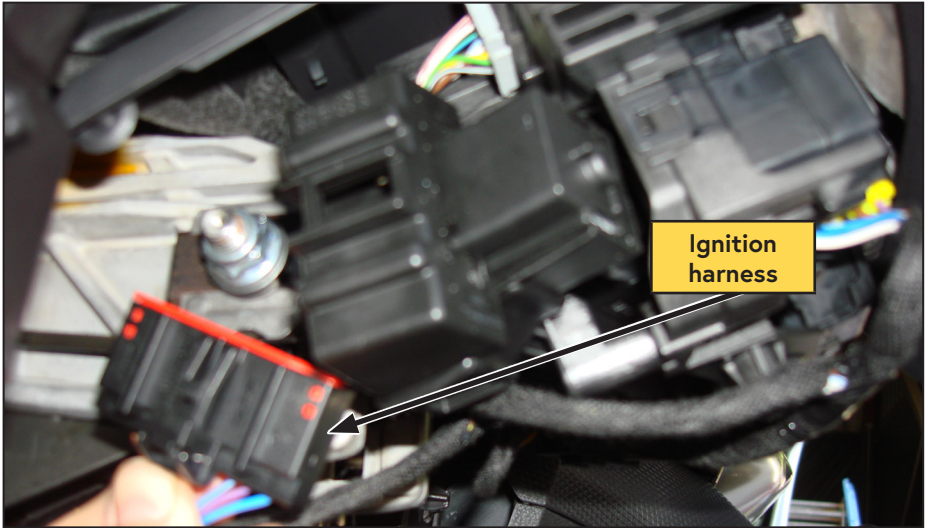

Figure 62 — Key switched 12 V
- Unplug the ignition harness connector from the side of the steering column and splice the orange wire from the Control Module to the violet/green wire at pin 6 on the harness. Plug the connector back into the ignition (Figure 62).